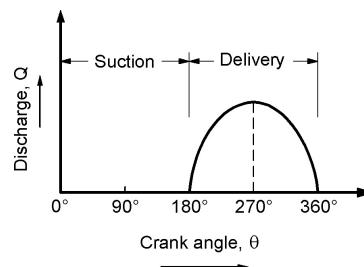

Fig.10.2 Discharge (Q) v/s Crank angle (θ) variations for single acting pump
8. The variation of discharge of water (Q) through delivery pipe with crank angle (θ) for single acting reciprocating pump is shown in Fig. 10.2.
10. As the piston has simple harmonic motion, the discharge curve is a sine curve as shown in Fig. 10.2.